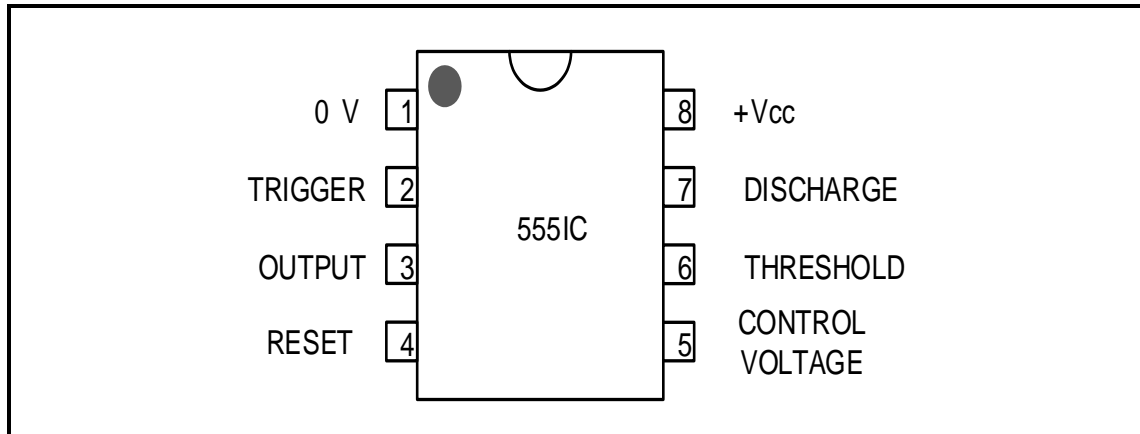

FIGURE 4.1: 555 IC PIN LAYOUT
4.1 FIGURE 4.1 below shows the 555 IC. Answer the questions that follow.